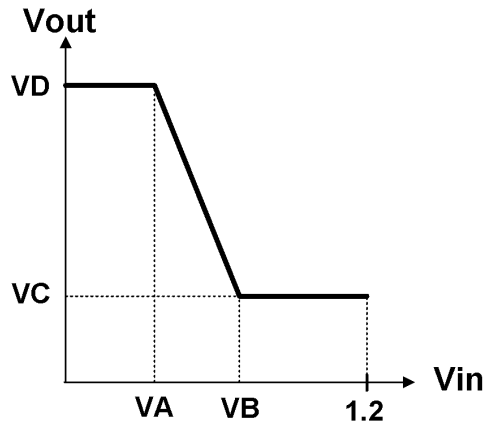

Figure 1(c)
- c) Consider a gate  $M_4$  that has a VTC as shown in Figure 1(c). Assuming that  $V_A < V_B$  and  $V_C < V_D$ , define the relationships between  $V_A$ ,  $V_B$ ,  $V_C$  &  $V_D$  that would make  $M_4$  digital.